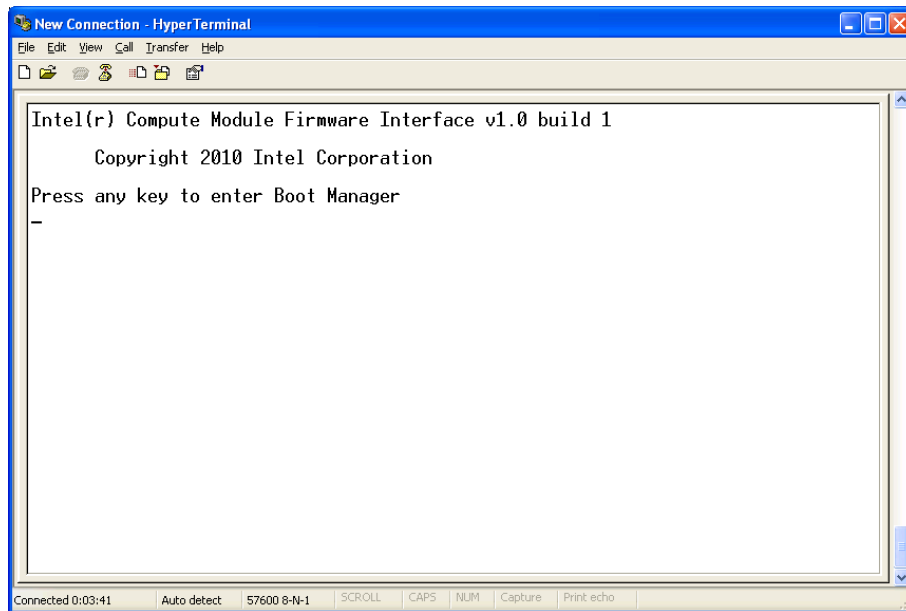

Figure 4 Boot Manager Screen
5. When the Embedded Controller boots, you will see a display as shown in Figure 4.